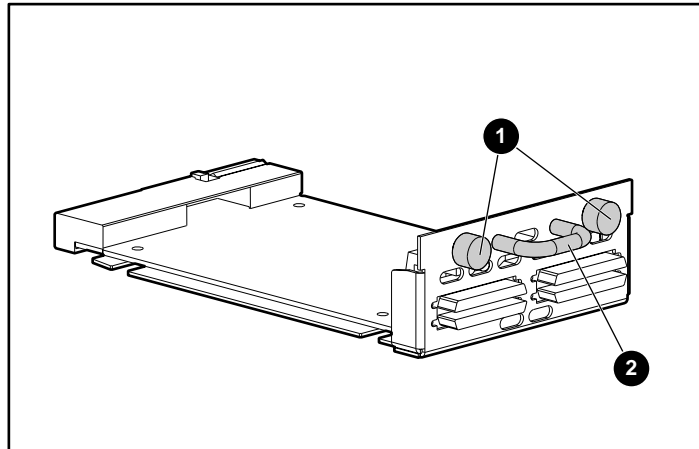
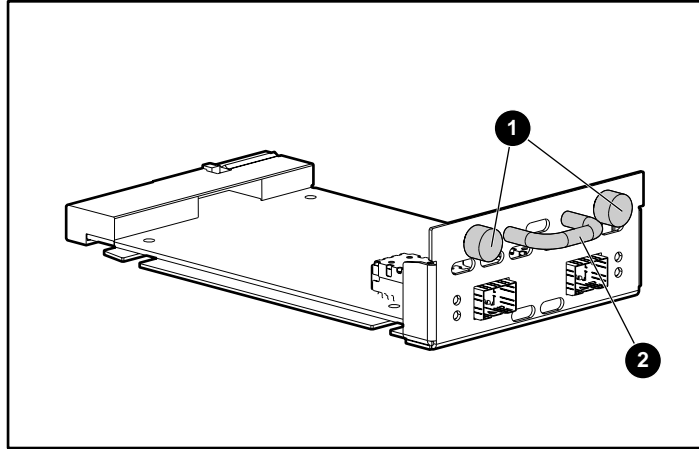

Figure 118: Thumbscrews and handle on a SCSI module
Figure 119: Thumbscrews and handle on a Fibre Channel module
Figure 118 illustrates a SCSI module and Figure 119 illustrates a Fibre Channel module.
4. To install the new module, hold the handle ❷ shown in Figure 118 or Figure 119, align the bottom plate of the module beneath the guides of the bay opening, and slide the new module into the bay opening until the outer plate of the module is flush against the back of the router.